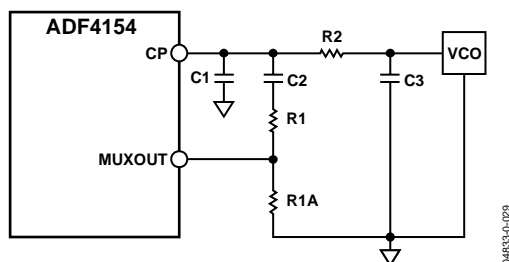
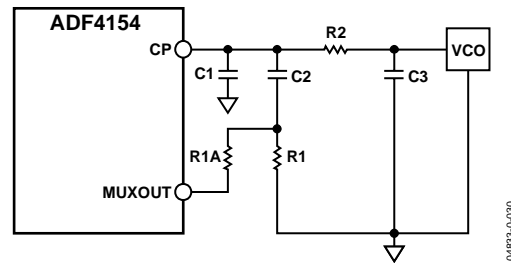

Figure 22 Fast-lock Loop Filter Topology—Topology 1
Figure 23. Fast-lock Loop Filter Topology—Topology 2
1. Divide the damping resistor (R1) into two values (R1 and R1A) of ratio 1:3 (see Figure 22).
2. Use an extra resistor (R1A) and connect it directly from the MUXOUT, as shown in Figure 22. The extra resistor must be chosen such that the parallel combination of an extra resistor and the damping resistor (R1) is reduced to $\frac{1}{4}$ of the original value of R1 alone (see Figure 23).